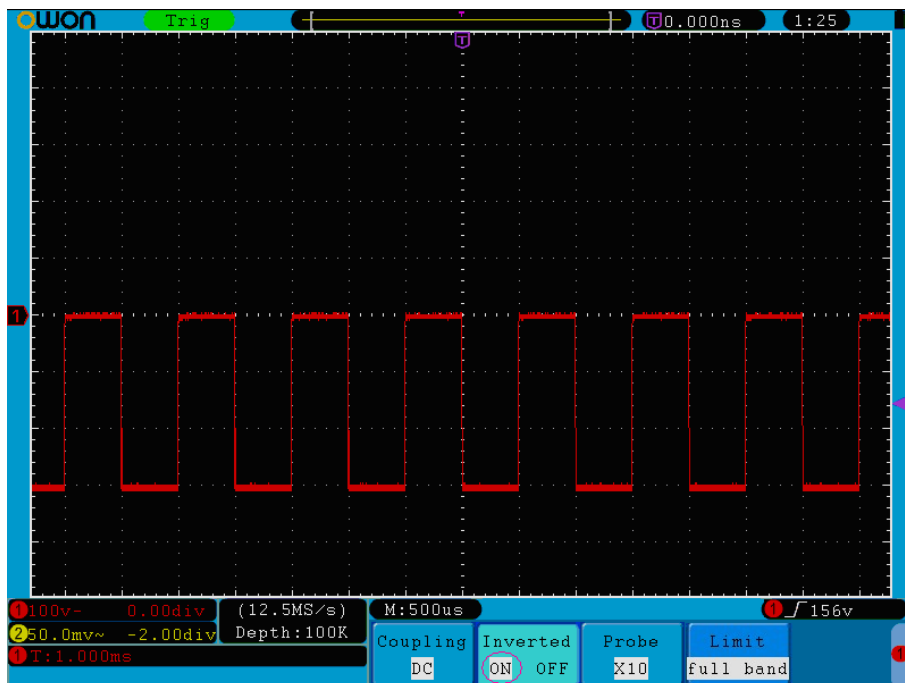

Fig. 5-5 Inverted Waveform
- (1) Press the **CH1 MENU** button to show the **CH1 SETUP** menu.
- (2) Press the **H2** menu selection button and select **ON** for **Inverted** item. The waveform is inverted as it is shown in Fig.5-5.